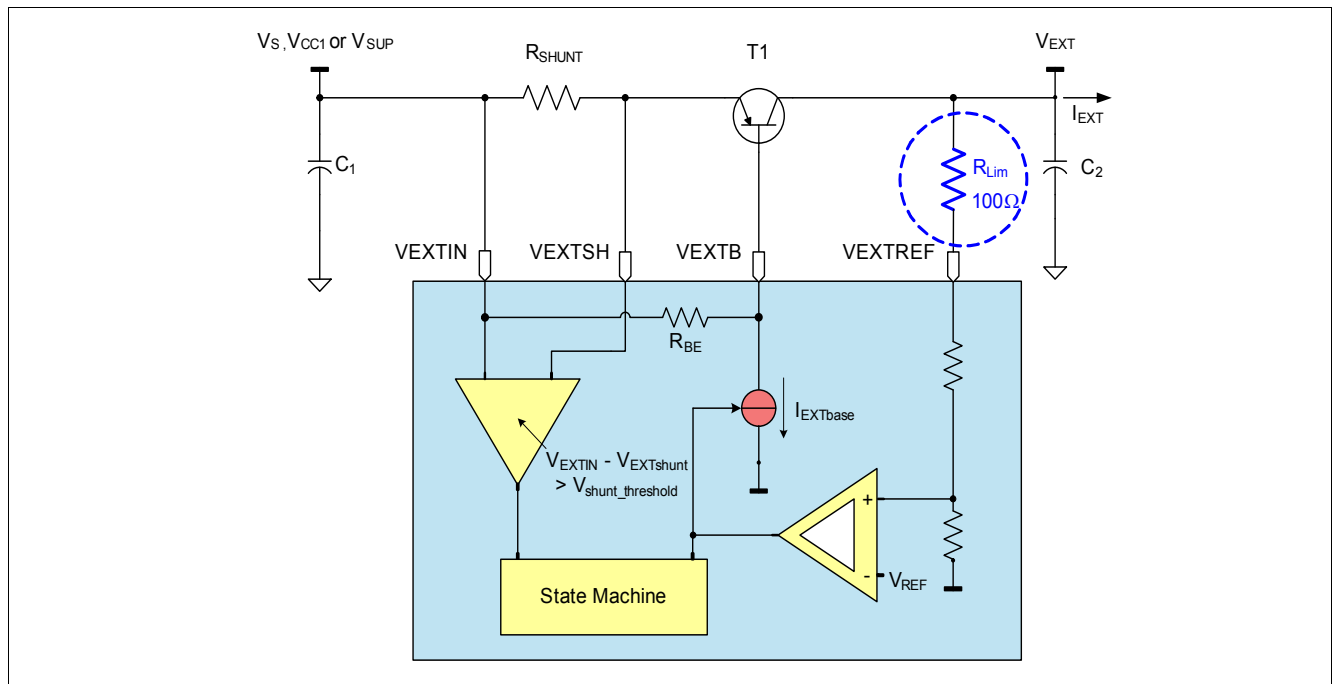

Figure 16 VEXT Hardware Setup
*Note: If the VEXT output voltage is supplying external off-board loads, the application must consider the series resonance circuit built by cable inductance and decoupling capacitor at load. Sufficient damping must be provided(e.g. series resistor with capacitor directly at device or 100 Ω Resistor between PNP collector and VEXTREF with 10 μF cap on collector (see **Figure 16**).*
Figure 16 shows the hardware set up used.